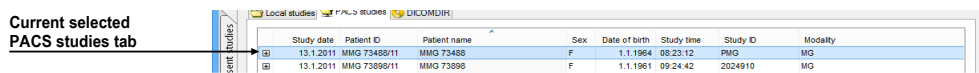

Figure 429 – Opened patient study from the PACS studies
- Finding and opening a required study stored in a remote DICOM device (see Figure 429) by taking the following steps: